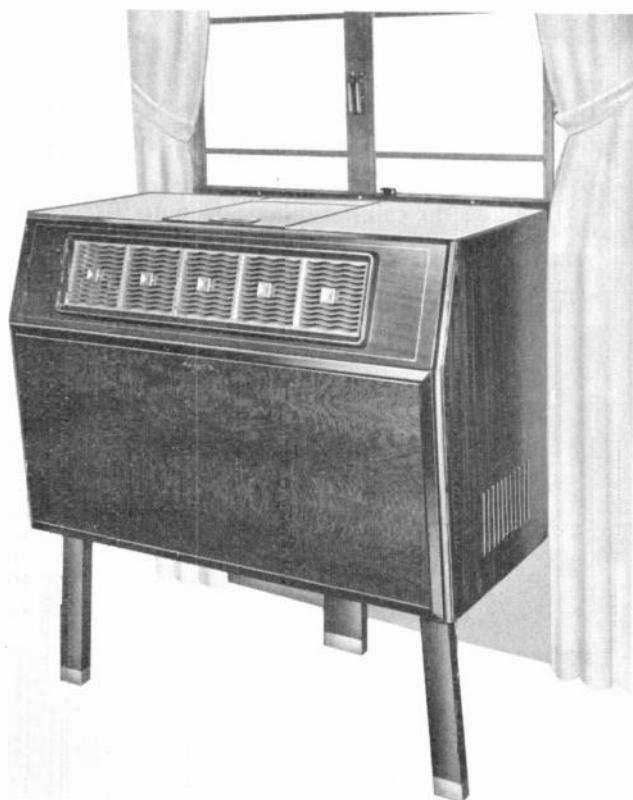

FIGURE 1
In order to be sure that the input impedance of the 'scope remains constant with respect to the circuit across which the voltage is to be measured, we recommend placing the 'scope input across the primary of the output transformer (see points "A" and "B" on fig. 1) and varying the input location of the signal from the generator. This obviates the necessity of using a detector probe through the R.F. and I.F. sections.
Step 1—The signal generator should be set on "audio" and also applied directly across points A and B with the 'scope attenuator on 1 (for accuracy, it is recommended that a cross-hatched 'scope overlay of 10 lines to the inch be used). Vary the signal generator output to get a vertical deflection of an inch or so, note the exact deflection in lines covered, and then place the generator output on the grid of the 6C4 phase inverter (point "C" in fig. 1). Change the 'scope attenuator to 10 or 100 as necessary to bring the sweep within the limits of the CRT. Note the deflection, place this quantity over the number of lines first noted and multiply by the setting of the attenuator. The result will be the gain of the phase inverter and the push-pull amplification of the two 6AQ5 tubes. If we were checking a set employing single output, we could check that stage separately, but checking push-pull is not practical as the output from the two tubes is equal to more than twice that of one tube and may range as high as three times in a class "A" amplifier.